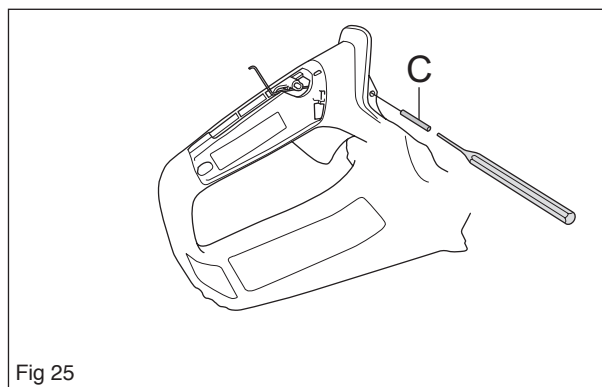

Fig 25
Fit the throttle control's pin (C) using a punch. See figure 25.